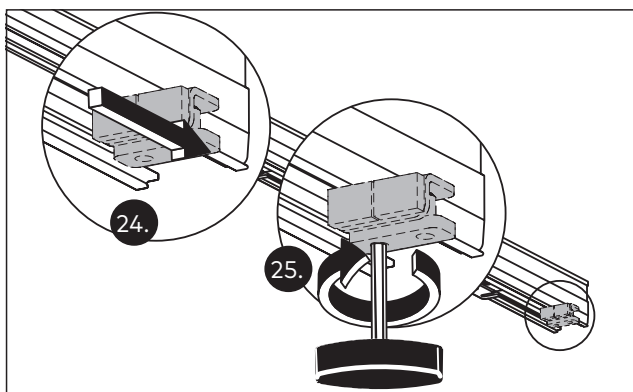

Fig. 27 Tightening the screws on the end stop
24. Slide the end stop to the position mark (Fig. 27).
25. Tighten the screws on the end stop (Fig. 27).